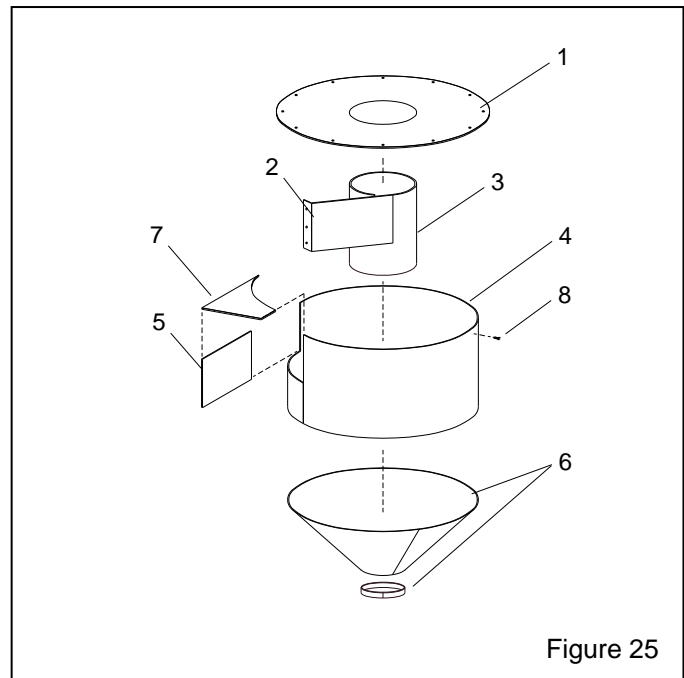

Figure 25
9.9 Reclaimer Liners, Figure 25